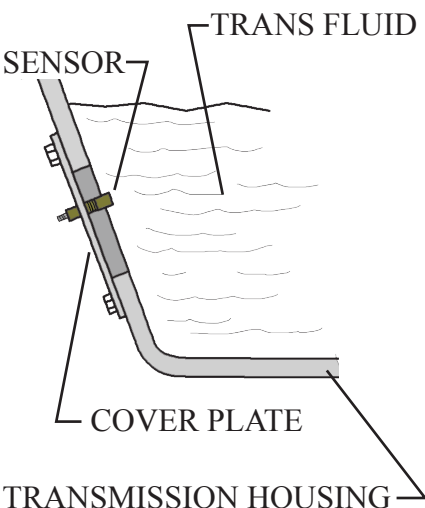

Figure 11
2) Find the best location for the sensor. Figure 11 (on the next page) gives a basic example of the temperature sensor being installed to the side plate of a manual transmission. This location is ideal for this particular install because the plate can easily be removed, modified, and reinstalled without getting any metal filings inside the transmission.)